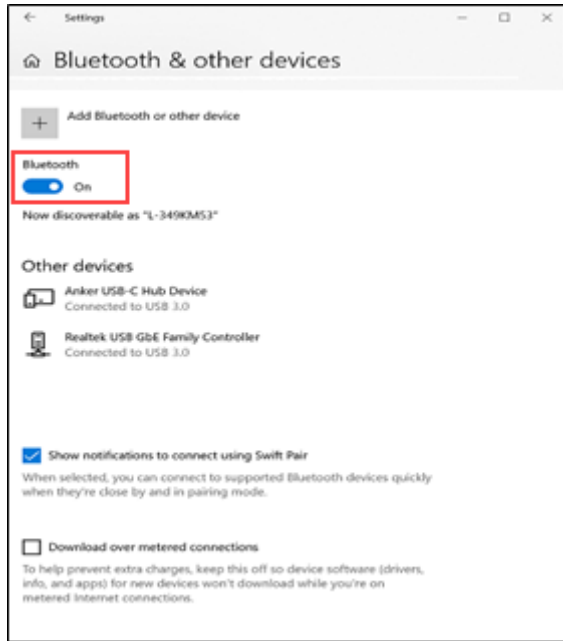

Figure 12: Win 10 Bluetooth – Settings
2. Slide the Bluetooth switch to the **ON** position in the Windows Bluetooth – Settings (see **Figure 12**).